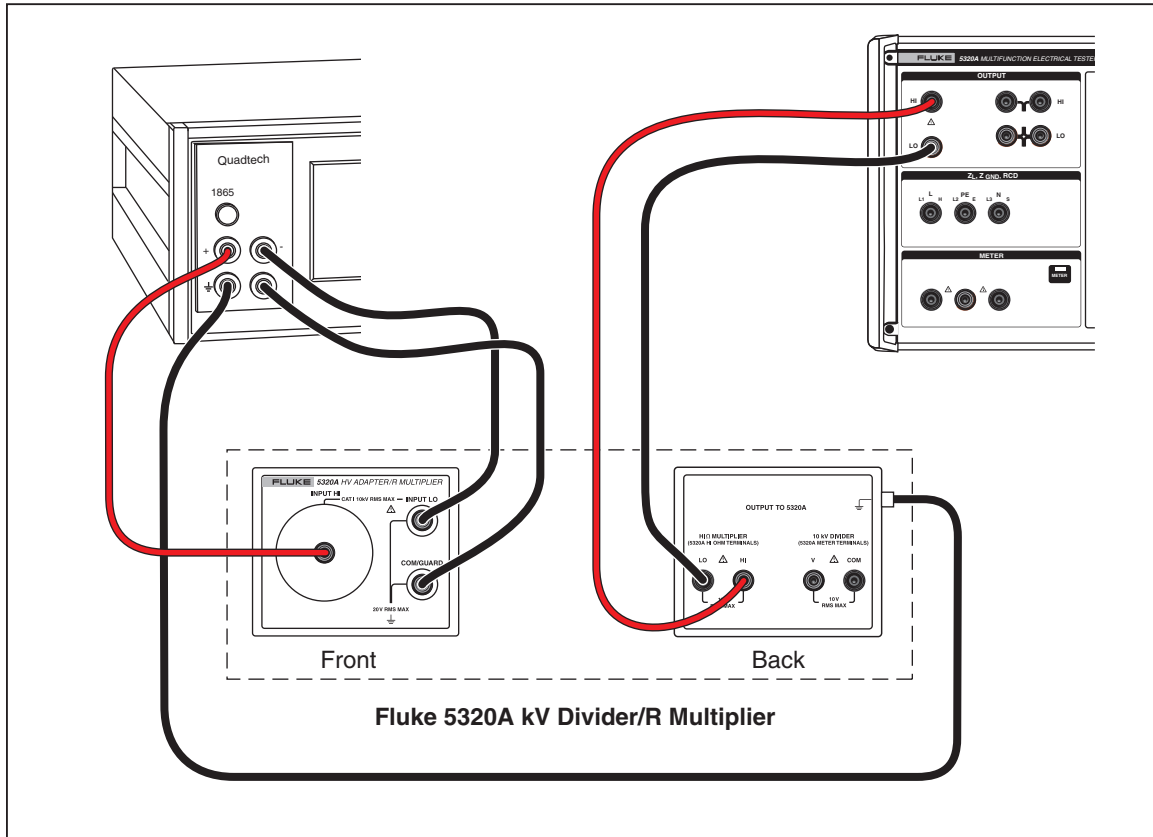

Figure 6-4. Resistance Multiplier Verification Connections
1. Connect the Calibrator to a megohmmeter through the HV Adapter using low-leakage, low-dielectric absorption test leads as shown in Figure 6-4. Note the polarity of the connections between the kV Divider/R Multiplier output to the Calibrator, HIΩ Multiplier to the Calibrator HIΩ, mA terminals are reversed.